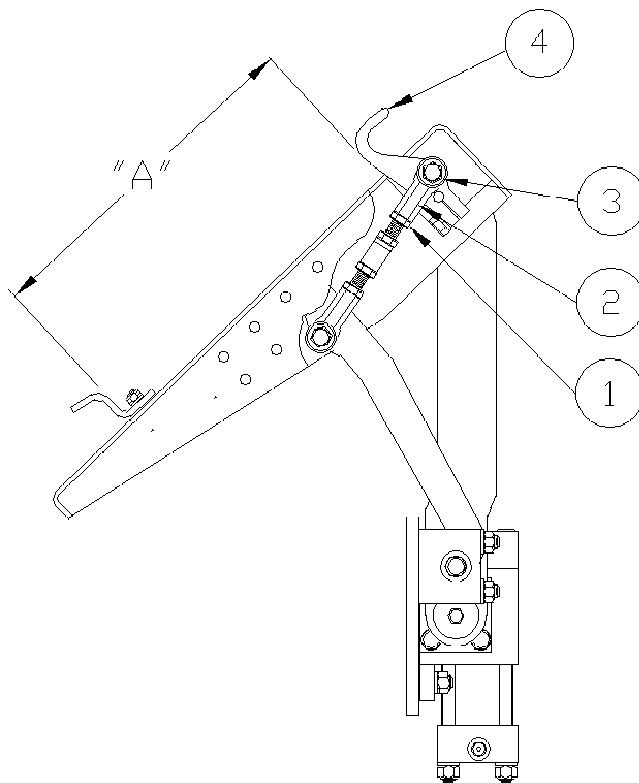

figure O-3
Check the distance (A) (figure O-3) between the saddle and lower hooks when the lifter faceplate is in the **FULL DUMP** position. Maintain this dimension at approximately **14 1/4"** for the proper "locking" of the cart to the lifter. To adjust the setting, loosen the jam nuts (1) on the spherical rod ends (2). Remove the bolts (3) that hold the rod ends to the lower hooks (4). Screw the rod ends in or out as required to obtain the correct dimension at (A). Replace the bolts (3) and tighten the jam nuts (1).